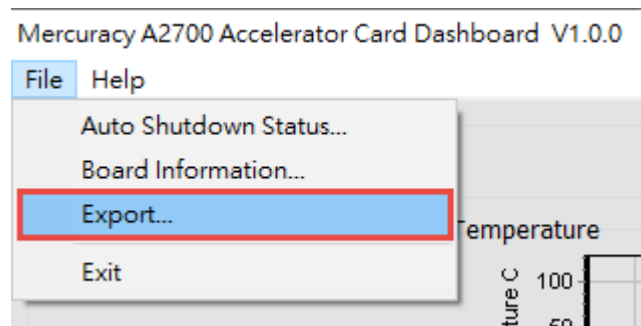
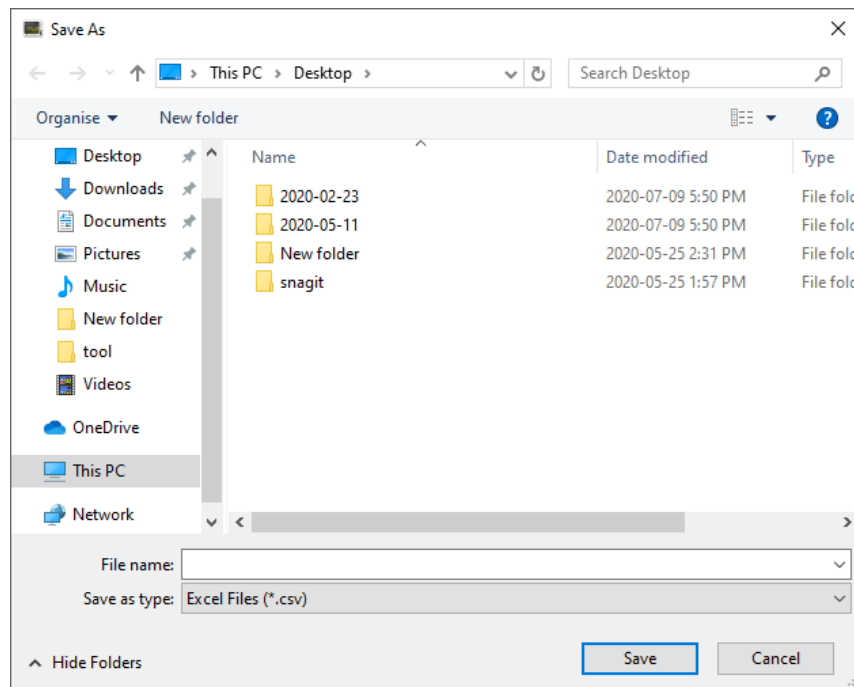

Figure 4-18 Export the log file
Figure 4-19 Export the log file in .csv format
- **Log File:** Click the Export in the File page to save the board temperature, fan speed and voltage data in .csv format document, as shown in **Figure 4-18** and Figure 4-19.